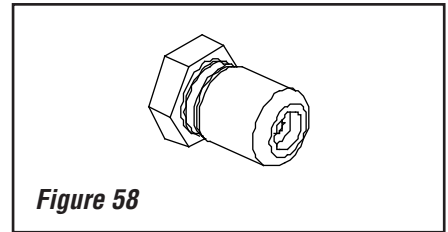

Figure 58
Step 12. (Refer to **Figure 55 on Page 33 and Figure 58**)
A. Remove the orifice from the manifold and replace it with the one provided in the kit. See the following table for orifice sizes for natural and propane models. **Figure 58** illustrates the orifice. Use pipe joint compound or Teflon tape on all pipe fittings before installing (ensure propane resistant compounds are used in propane applications, do not use pipe joint compounds on flare fittings).